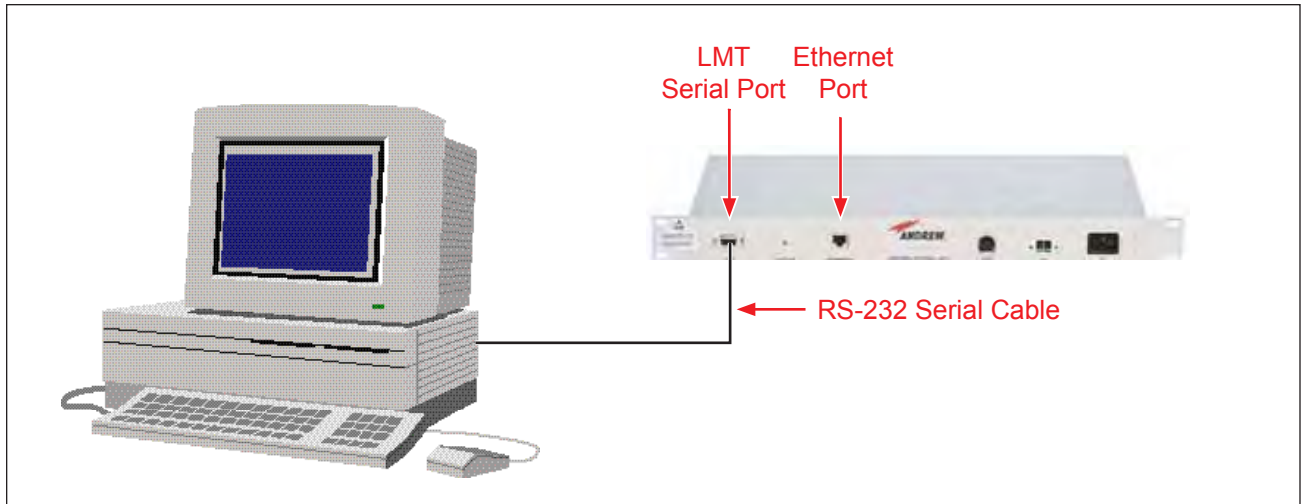

Figure 5-11. Local PC Connected To Controller's LMT Serial Port Using An RS-232 Cable.
2. Using an RS-232 serial cable, connect the COM1 serial port on a local computer and the LMT serial port on the front of the controller (Figure 5-11).